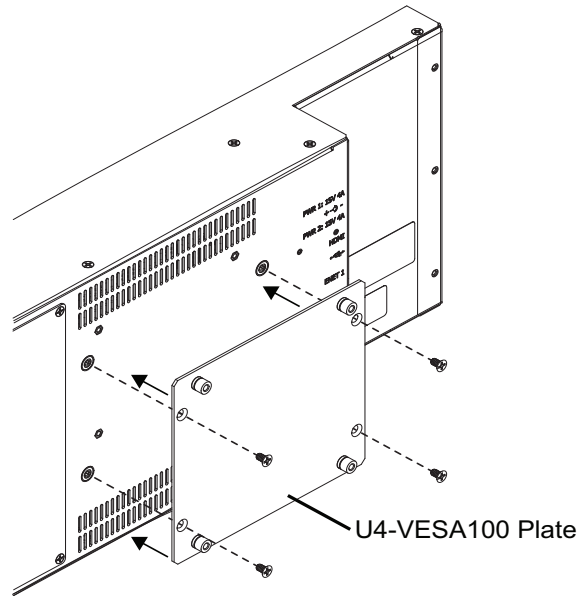

Figure 8 U4-VESA100 Bracket on the Ultritouch-4 Panel
5. Use a Phillips #2 screwdriver and the provided screws to fasten the plate to the panel. (**Figure 8**)